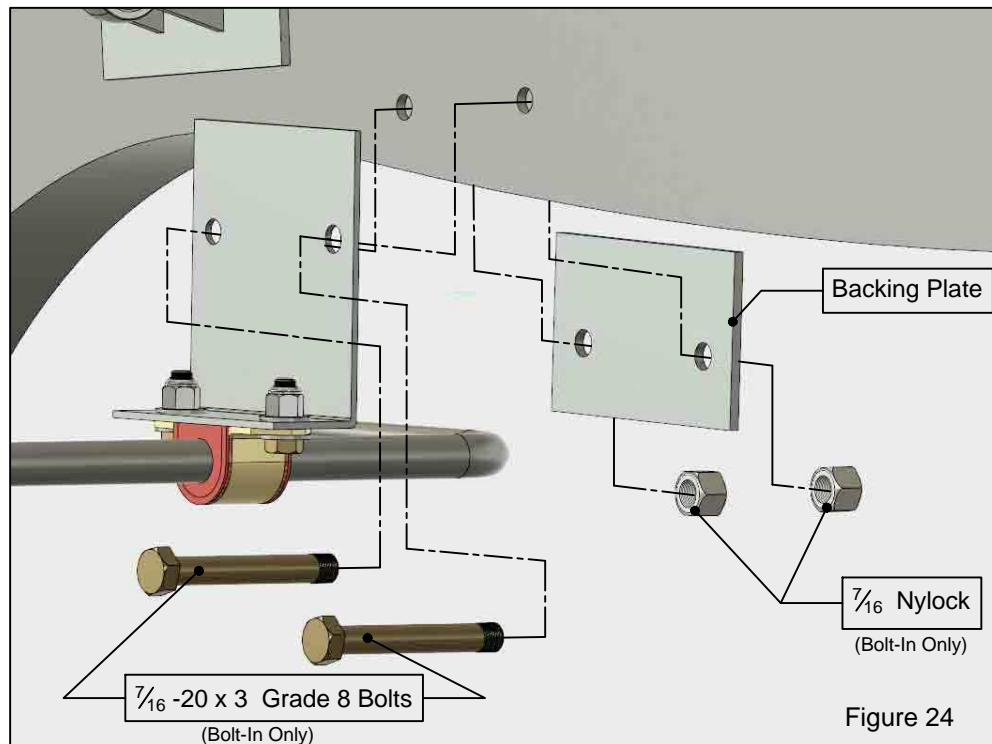

Figure 24
26. (Bolt-In Only) Attach Sway Bar Mounting Brackets to Frame Rails using 2 ea. $\frac{7}{16}$ -20 x 3 Grade 8 Bolts and 2 ea. $\frac{7}{16}$ " Nylocks. Backing Plate is "sandwiched" between outside of Frame and Nylocks. (Refer to "Figure 24").